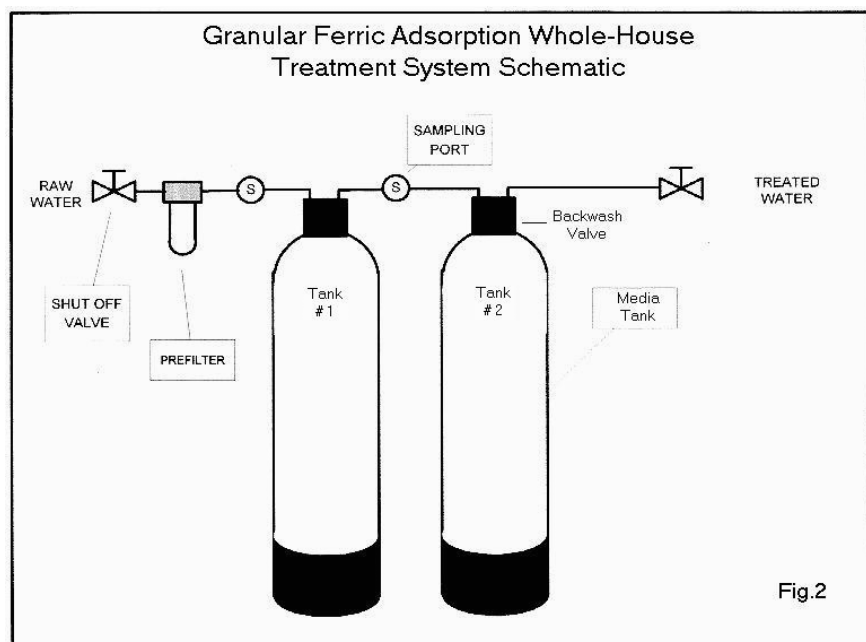

Fig.2
**Granular Ferric Adsorption:** A whole-house granular ferric adsorption system is the preferred treatment technology. It effectively removes both arsenic species from all water in the home, is easy to operate and maintain, and the arsenic is not returned to the environment via regeneration. This type of system is called a "Point-of-Entry" system because the water is treated where it enters the home and all the water in the home is treated. This type of system should be installed as shown in Figure 2. The system consists of a shut-off valve, a 5-micron sediment pre-filter, a raw water sampling tap, two 10x40 inch or 9x48 inch tanks each containing at least one cubic foot of adsorption media, backwash control valves on each tank, a sampling tap between the tanks, and a shut-off valve after the system. The system should be thoroughly backwashed before being placed into service. The backwash valves should be set to backwash the media once per week, each tank on a separate day. The backwash line should be piped to a suitable disposal location according to local plumbing codes.